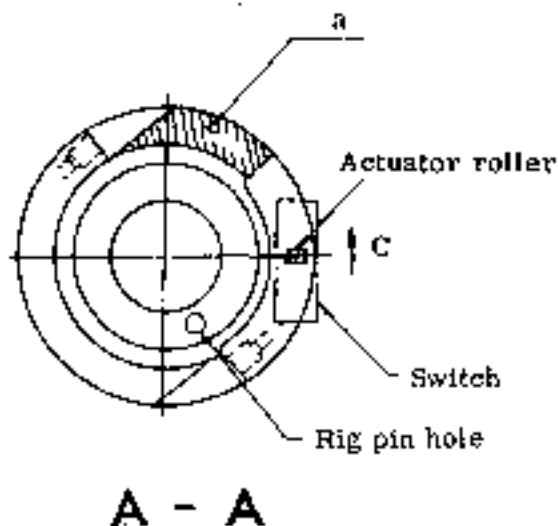

Fig. 4-74 Propeller low pitch limit switch
- (2) Adjustment is not necessary.
10.11 PROPELLER LOW PITCH LIMIT SWITCH (See Fig 4-74)
- (2) Adjustment
- (a) Install the switch so that the switch may be turned to "OFF" at the condition of A-A shown in Fig. 4-74 and that the switch may be turned to "ON" when the highest point (a) of pulley side cam comes to actuator roller position.